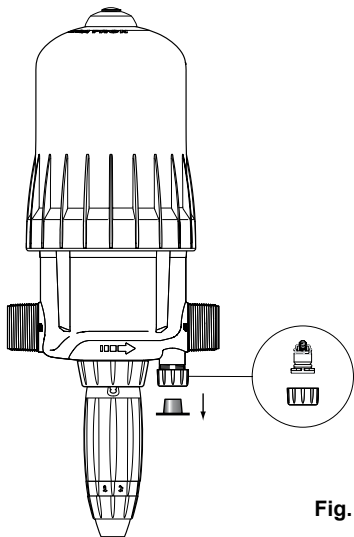

Fig. 6
- Automatically restores atmospheric pressure within the installation in case of accidental depressurisation* (**Fig. 6**). Its use complies with health and safety regulations in force in the country.